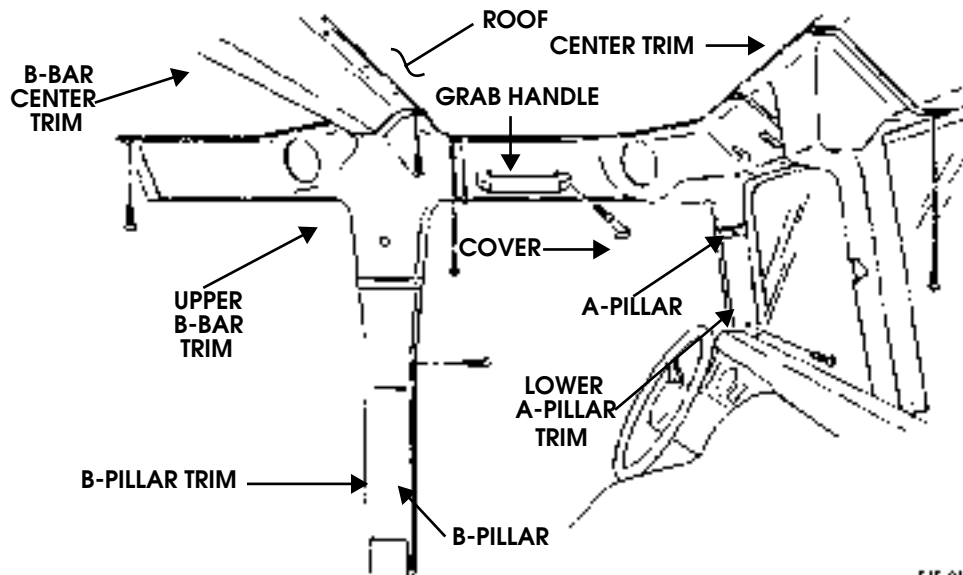

Figure 10-45: A-Pillar and B-Bar Interior Trim Components
- Secure B-pillar trim to B-pillar with washers and screws (Figure 10-45).
- Secure center trim to windshield frame and roof with screw/washer assemblies (Figure 10-45).